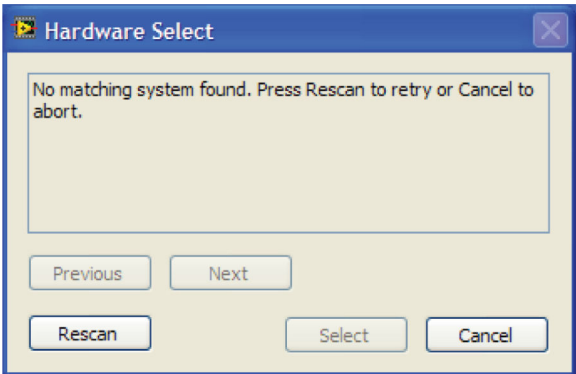

Figure 3. Pop-Up Window Error
- 2. If the EVAL-SDP-CB1Z board is not connected to the USB port when the software is launched, a connectivity error displays (see Figure 3). Simply connect the EVAL-CN0304-SDZ evaluation board to the USB port of the PC, wait a few seconds, click **Rescan**, and follow the instructions.